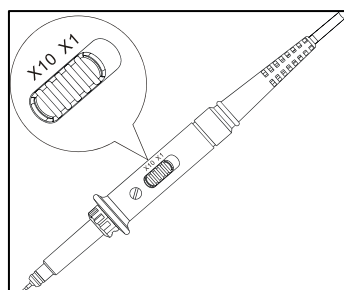

Figure 1-6
- 1) Set the attenuation switch on the probe to 10X (Figure 1-6) and connect the probe to CH1 on the oscilloscope. Align the slot in the probe connector with the key on the CH1 BNC connector. Push to connect, and twist to the right to lock the probe in place. Attach the probe tip and ground lead to the Probe compensator connector.